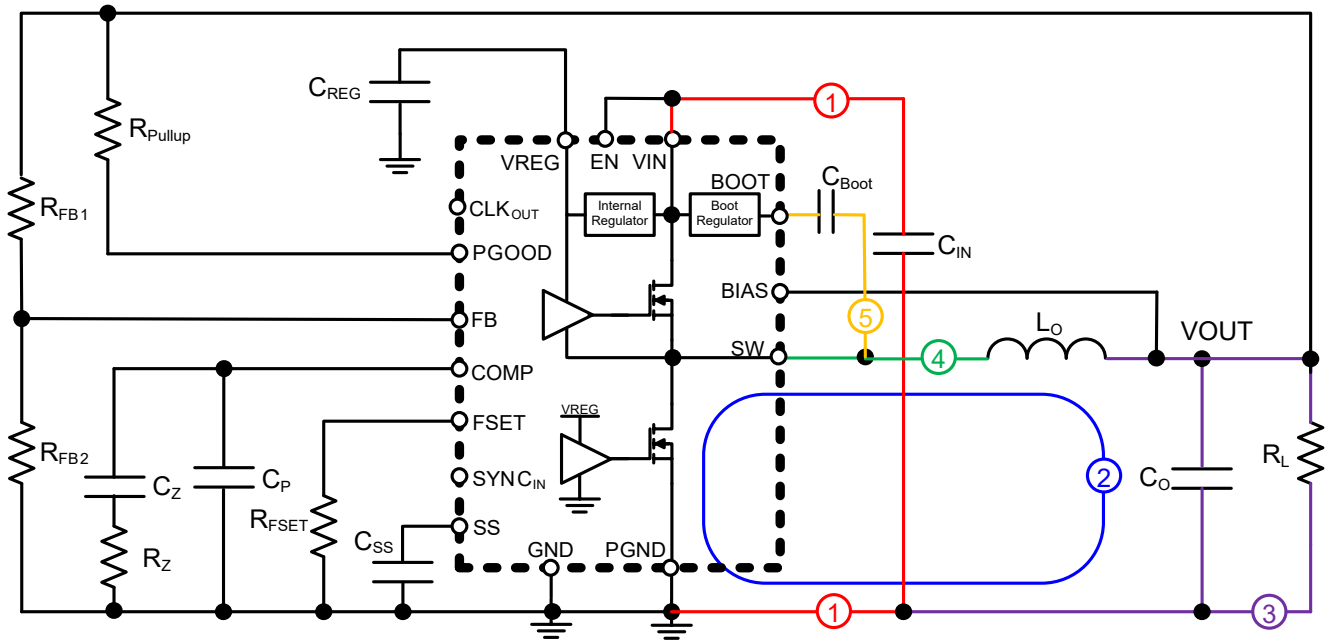

Figure 11: PCB Layout for Minimizing EM Emissions
1. Place the ceramic input capacitors as close as possible to the VIN pin and PGND pins to make the loop area minimal, and the traces of the input capacitors to VIN pin should be short and wide to minimize the inductance. This critical loop is shown as trace 1 in Figure 11. The bulk/electrolytic input capacitor can be located further away from VIN pin. The input capacitors and ARG81800 IC should be on the same side of the board with traces on the same layer.
3. When the high-side MOSFET is off, free-wheeling current flows from ground, through the synchronous low-side MOSFET, into the load via the output inductor, and back to ground. This loop should be minimized and have relatively wide traces. This loop is shown as trace 2 in Figure 11.
4. Place the output capacitors relatively close to the output inductor (LO) and the ARG81800. Ideally, the output capacitors, output inductor and the ARG81800 should be on the same layer. Connect the output inductor and the output capacitors with a fairly wide trace. The output capacitors must use a ground plane to make a very low-inductance connection to the GND. These critical connections are shown as trace 3 in Figure 11.
5. Place the output inductor (LO) as close as possible to the SW pin with short and wide traces. This critical trace is shown as trace 4 in Figure 11. The voltage at SW node transitions from 0 V to VIN with a high dv/dt rate. This node is the root cause of many noise issues. It is suggested to minimize the SW copper area to minimize the coupling capacitance between SW node and other noise-sensitive nodes; however, the SW node area cannot be too small in order to conduct high current. A ground copper area can be placed underneath the SW node to provide additional shielding. Also, noise sensitive analog signals (like FB, COMP) should not be routed near the SW polygon.
10. Place the bootstrap capacitor (CBOOT) near the BOOT pin and keep the routing from this capacitor to the SW polygon as short as possible. This critical trace is shown as trace 5 in Figure 11.